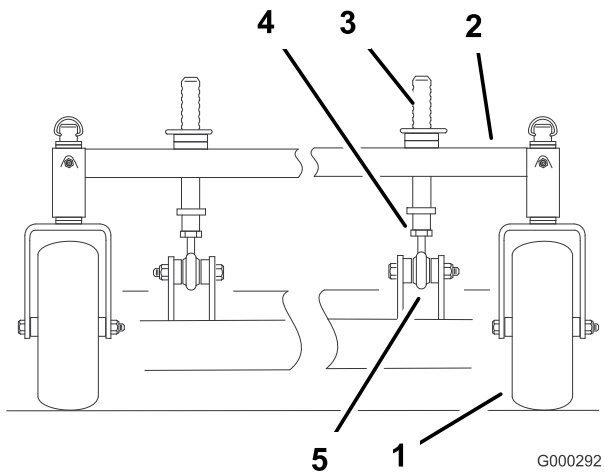

Figure 66
1. To change the front-to-rear pitch, the front height-of-cut posts can be adjusted (Figure 66).
- To raise the front of the deck, loosen jam nut and rotate the front pin clockwise (Figure 66).
- To lower the front of the deck, loosen jam nut and rotate the front pin counter clockwise (Figure 66).
- Tighten the jam nuts (Figure 66).